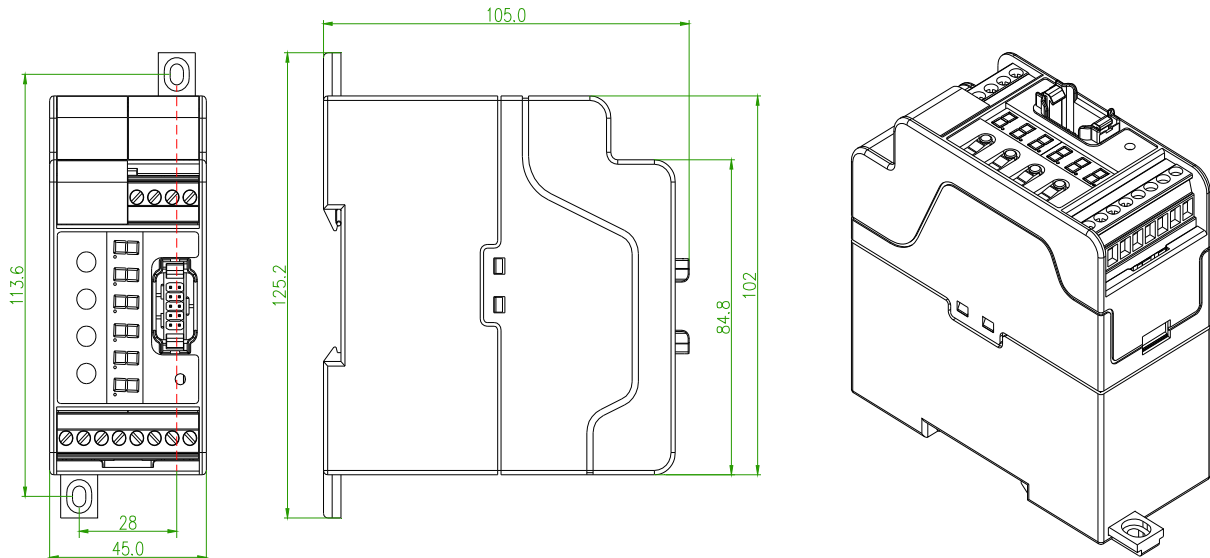

Figure 1
6.1.1 Power supply module size(Figure 1)